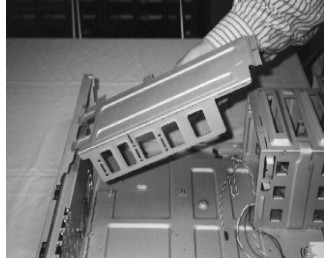

Fig:8
- B. Remove center bar to allow easy access to electronic bay (Fig 8).